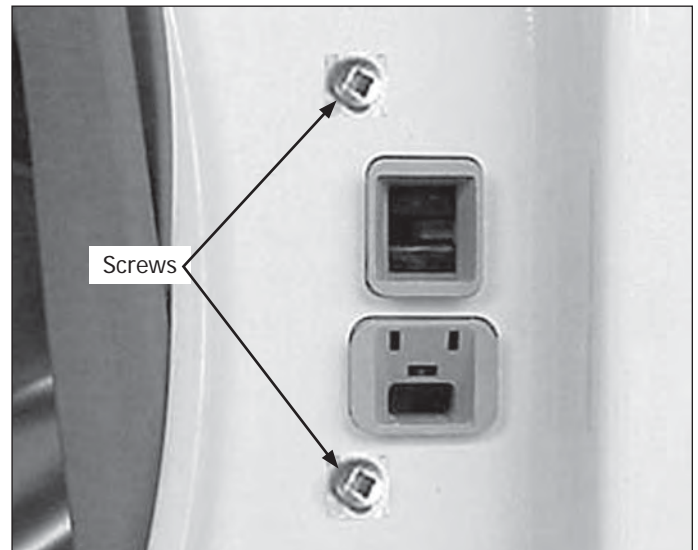

Figure 4-17.
3. Remove the (2) screws securing the switch assembly to the front panel. (See Figure 4-17)